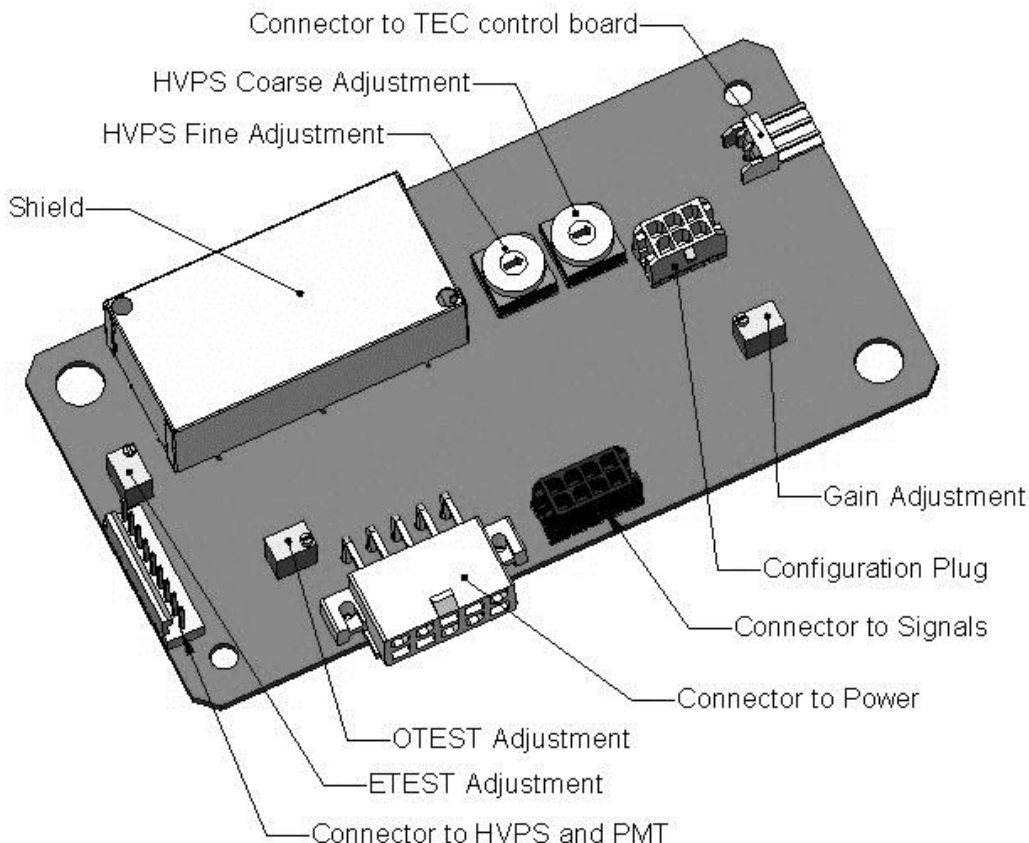

Figure 10-5: Pre-Amplifier Board Layout
7. Locate the Following Components On the Preamp board (see Figure 10-5 of this addendum):
8. Set the HVPS coarse adjustment to its minimum setting (0).
9. Set the HVPS fine adjustment switch to its maximum setting (F).